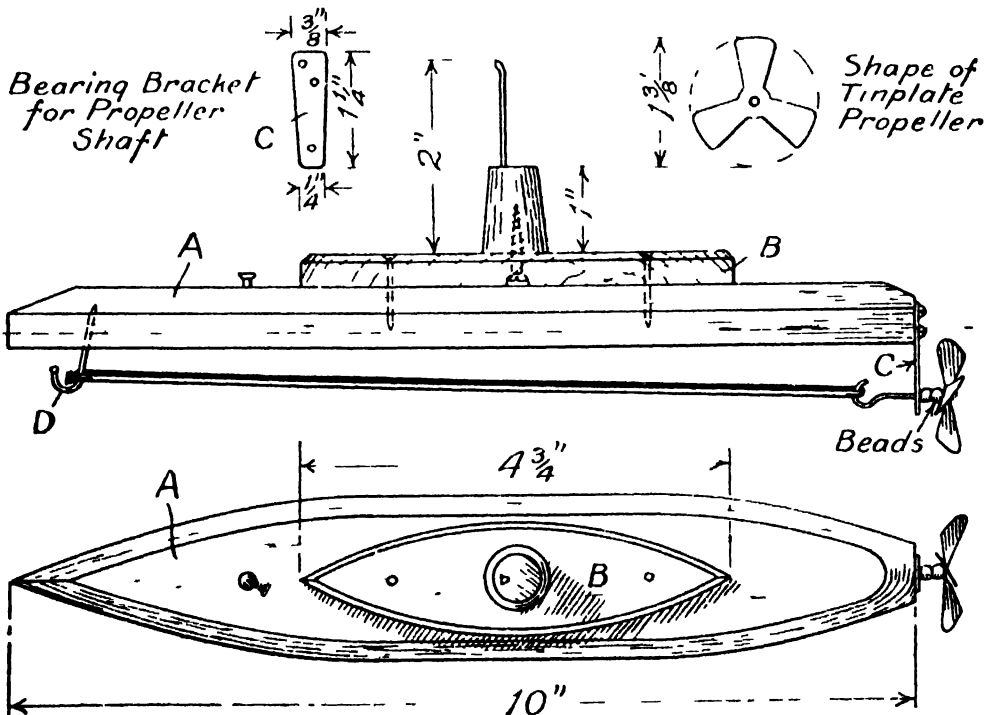

FIG. 7. - CONSTRUCTURAL DIAGRAMS FOR SUBMARINE
For the hull take a piece of wood 10 inches long by $1\frac{3}{4}$ inches wide, and $\frac{5}{8}$ inch thick, and after planing it on both sides, mark a centre line on one side. With a pencil carefully set out the shape of the hull (A) (Fig. 7), saw away the parts not required and finish the sides smooth with a chisel. Now chamfer or bevel the top edge of the hull all round, as shown in the remainder of the sketches. This can be done with a small iron plane and a chisel.